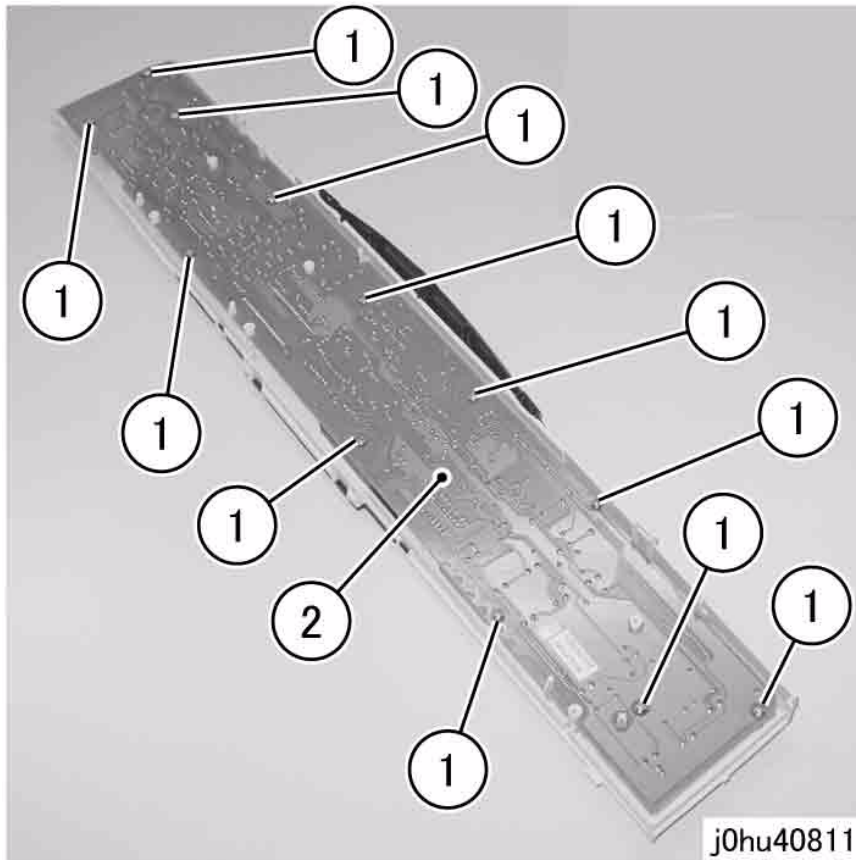

Figure 2 Remove User Interface PWB
4. Remove the User Interface PWB (Figure 2).